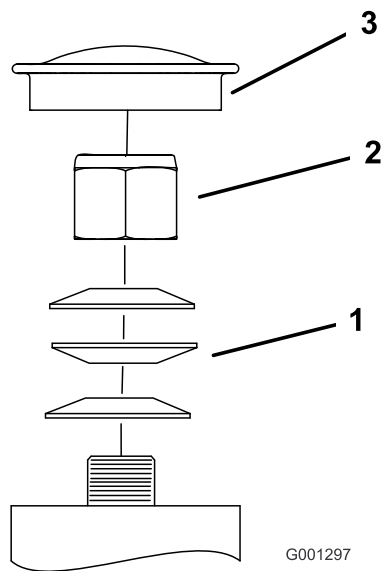

Figure 63
3. Remove the dust cap from caster and tighten the locknut (Figure 63).
4. Tighten the locknut until the spring washers are flat, and then back off a 1/4 turn to properly set the preload on the bearings (Figure 63).
Important: Make sure that the spring washers are installed correctly as shown in Figure 63.
5. Install the dust cap (Figure 63).